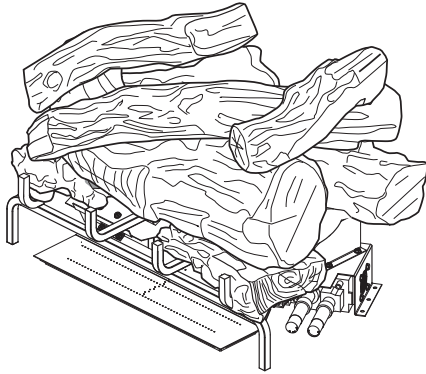

Figure 27 - Final Assembly
8. Final Assembly is shown in **Figure 27**, **Page 18**. See **Figure 28**, **Page 18** for additional views.